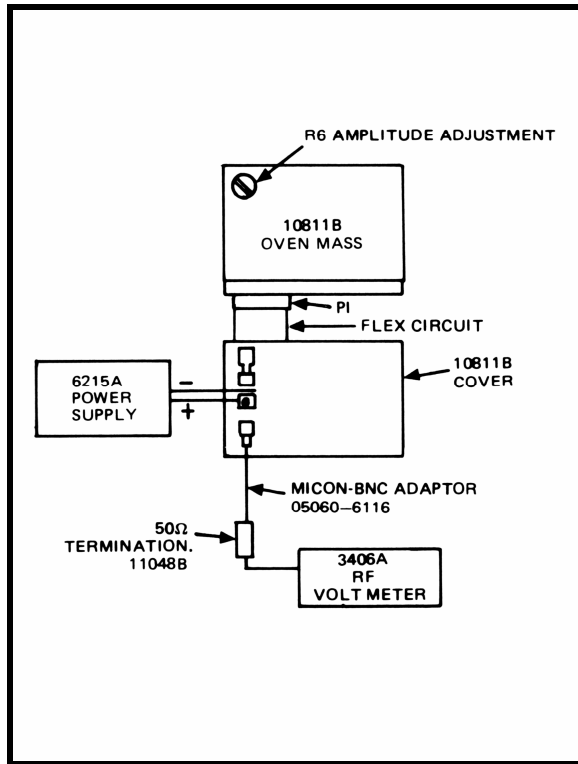

Figure 5-3. 108118 Amplitude Adj Set-up
- c. For the 10811B, reconnect the flex circuit attached to the bottom cover and connect the 6215A as shown in Figure 5-3. DO NOT APPLY POWER TO THE OVEN CIRCUITS. A Micon to BNC adaptor is available for the 10 MHz output (HP Part Number 05060-6116).